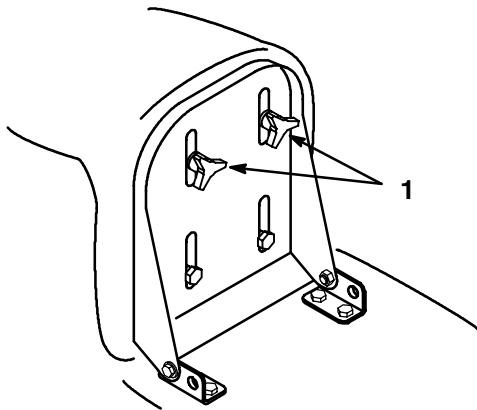

Figure 2
1. Raise the seat and loosen the adjustment knobs (Fig. 2).